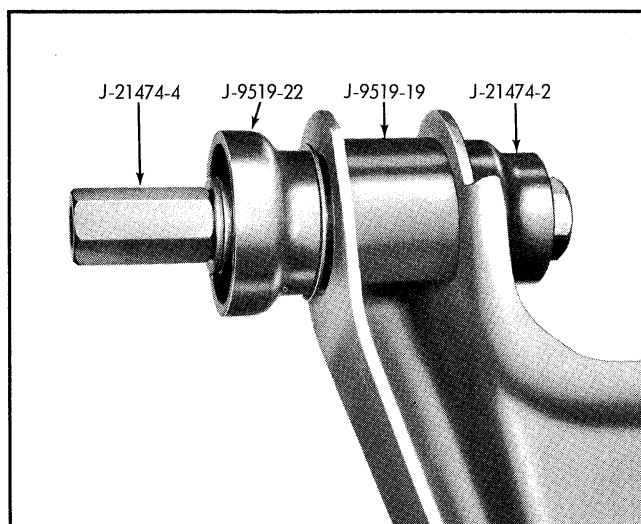

Fig. 3-21 Installing Bushing in Control Arm
4. Install new bushing in control arm using components of tool J-21474 as shown in Fig. 3-21.